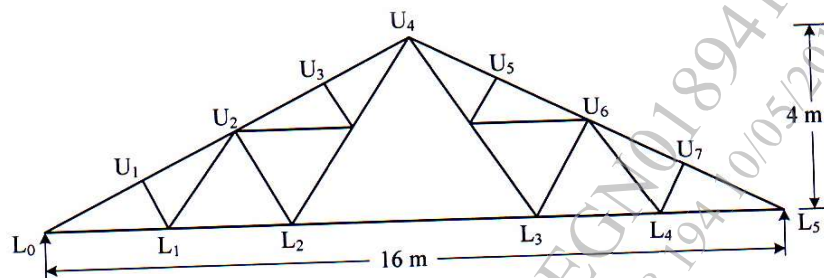

Fig. 10
b) A truss shown in Fig.10 b is used for an industrial building situated at Allahabad covered with AC sheets. Determine panel point dead, live and wind load with following data. [14]